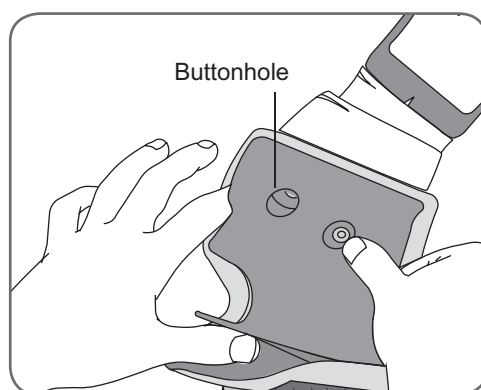

Figure 8-3: Attaching the personal panel to the L300 FS Cuff.
1. Attach the personal panel buttonholes to the L300 FS Cuff plug holes. See Figure 8-3.